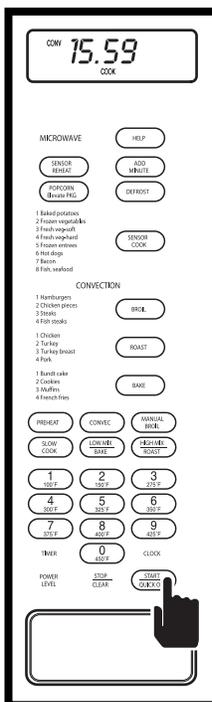

Figure 3-84.
4. Open door, place steaks in oven, and close door. Press the QUICK ON/START key. (See Figure 3-84)